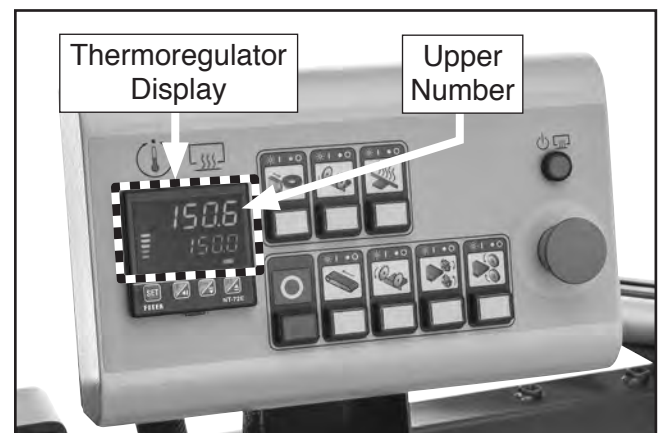

Figure 40. Thermoregulator display illuminated after master power switch turned **ON**.
7. Turn master power switch **ON**. Thermoregulator display on control panel should illuminate (see **Figure 40**).
8. Watch thermoregulator display and listen for glue spindle motor to start. When upper number (see **Figure 40** on **Page 30**) reaches 180° C, glue spindle motor should turn **ON**.